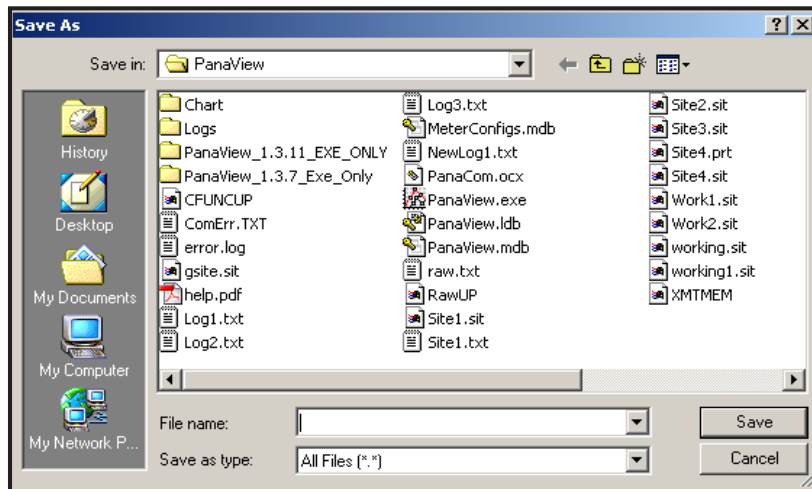

Figure 13: Saving Signal Array Data to File
- If you double-click on *To File*, another window opens similar to Figure 13. Enter a file name and click [Save]. PanaView stores the array data in a Windows file, and closes the *Calibration/Test* window.
- If you double-click on *To File*, the *Save As* window (similar to Figure 13 on page 53) opens. Enter a file name and click [Save]. PanaView stores the array data in a Windows file, and closes the *Calibration/Test* window.